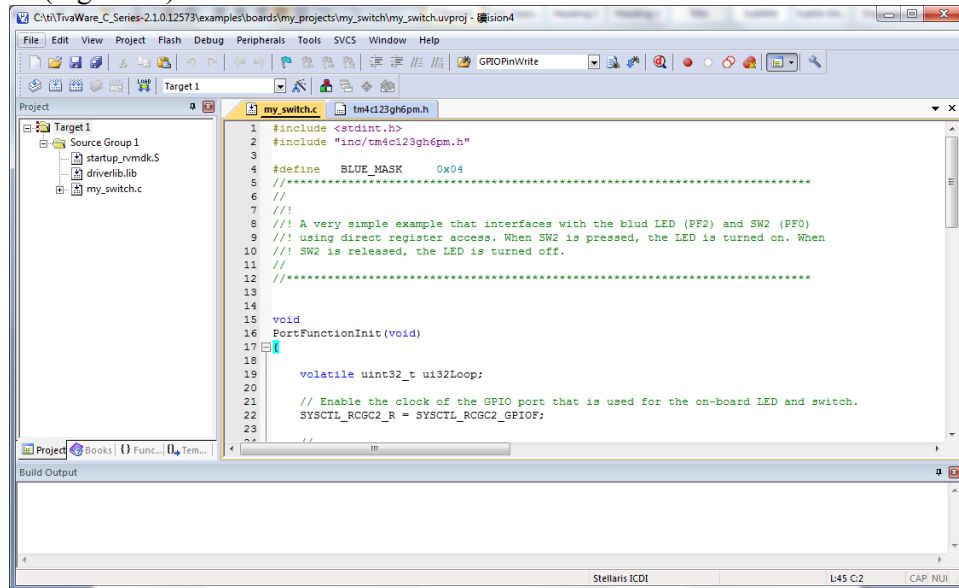

Figure 24
9. Now the file *my_switch.c* is empty. We just copy the code in the file *switch.c* in the sample project *switch* and paste it in our *my_switch.c* file. So far we have included all necessary files for the project (Figure 24).